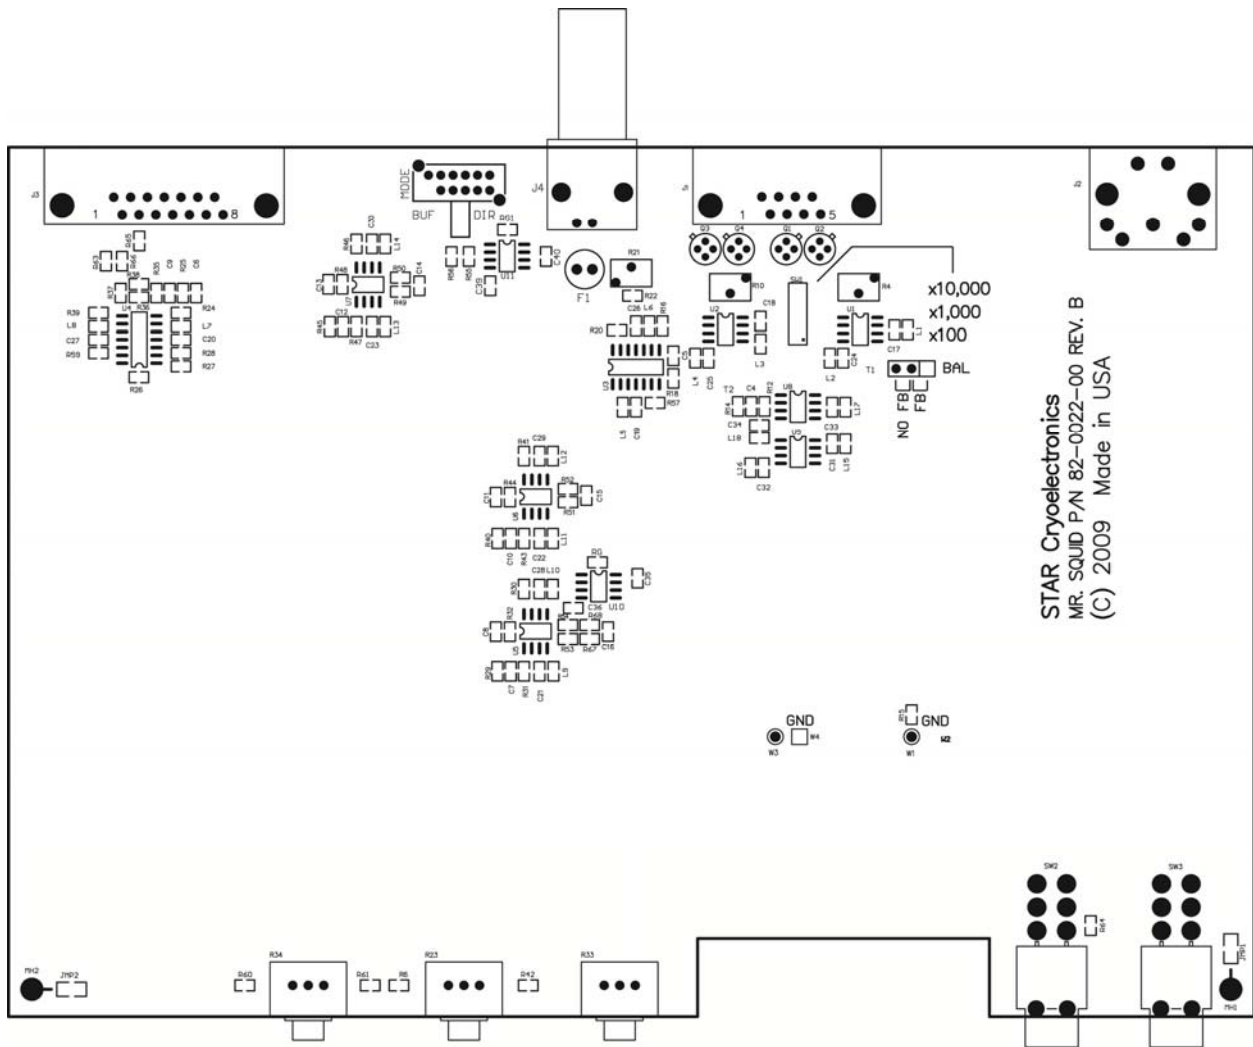

Figure 3-1. Assembly drawing of the MS-EB03 control electronics board.
2. Configure the external feedback input mode switch for direct (DIR) coupling to the Mr. SQUID external feedback coil (see Figure 3-1). This bypasses the buffer amplifier in the external feedback input circuit. The default position is BUF,
3. Move the two-pin jumper for the preamplifier balance (BAL) to the feedback (FB) position (see Figure 3-1). The default position is NO FB.